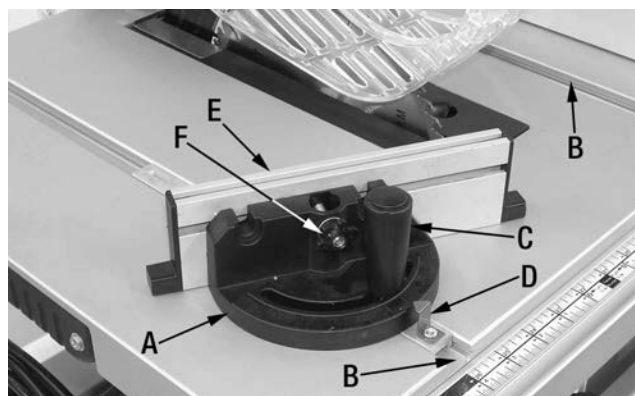
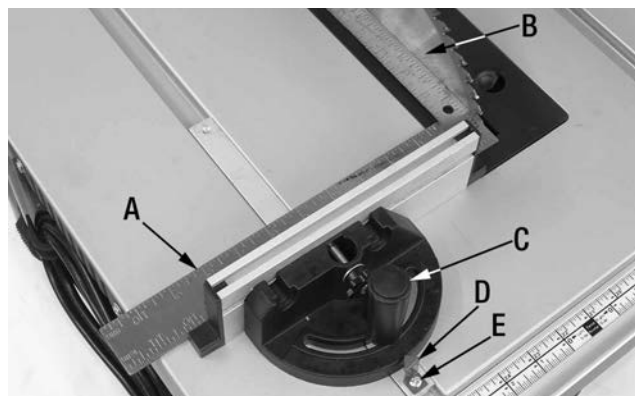

FIGURE 12
FIGURE 13
When crosscutting and the blade is set at 90° or 45° to the table, the miter gauge (A) Fig.12 can be used in either the right side or left side T-slot (B) on the table. When crosscutting and the blade is tilted, use the right sided T-slot of table where the blade is tilted away from your hands and miter gauge.
1. Slide the miter gauge bar into one of the T-slots (B) in the table.
2. To adjust the miter gauge, loosen lock handle (C) and set the miter gauge body (A) so the indicator (D) aligns to the desired cutting angle, then retighten lock handle.
3. This miter gauge comes with an aluminum facing (E) which can be removed if desired by removing lock knob (F).
4. For best results, it is recommended to check the miter gauge for squareness against the saw blade. Place a square (A) Fig.13 against the blade (B), loosen lock handle (C) and place the miter gauge body against the square. Once the miter gauge body is perfectly square with the blade, retighten lock handle (C). If the pointer (D) requires alignment, loosen screw (E) and reposition the pointer, retighten screw.